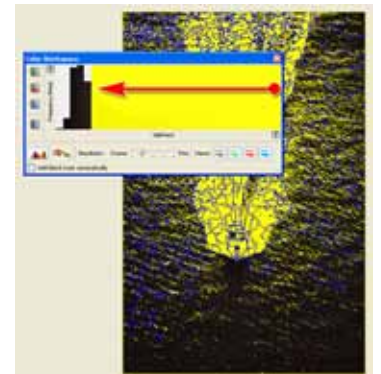

Fig. 17 - Click-and-drag to select the highlights and midtones. The yellow overlay indicates selected hues.
12. Within the **Color Workspace** dialog, click-and-drag from the far-right bar, such that all but the five far-left bars are selected (Fig. 17).